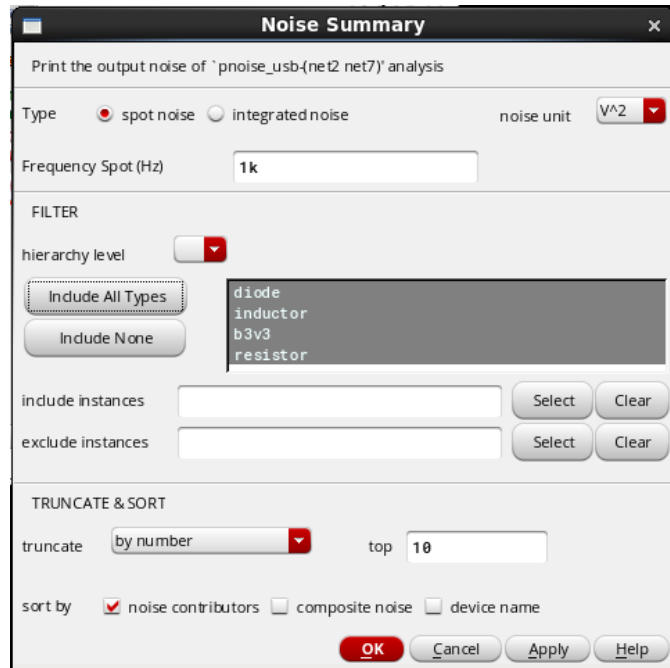

Fig. 10
- Open “Noise summary” from Results/Print. It gives you a list of the noise sources and their contribution in total noise. Set it up according to Fig. 10 and click OK. Note that the ‘Frequency Spot’ is relative to the fundamental frequency, i.e. the noise we are looking at is the noise at $f_0 + 1\ \text{kHz}$. What is the major source of noise? Try some different frequencies and compare.